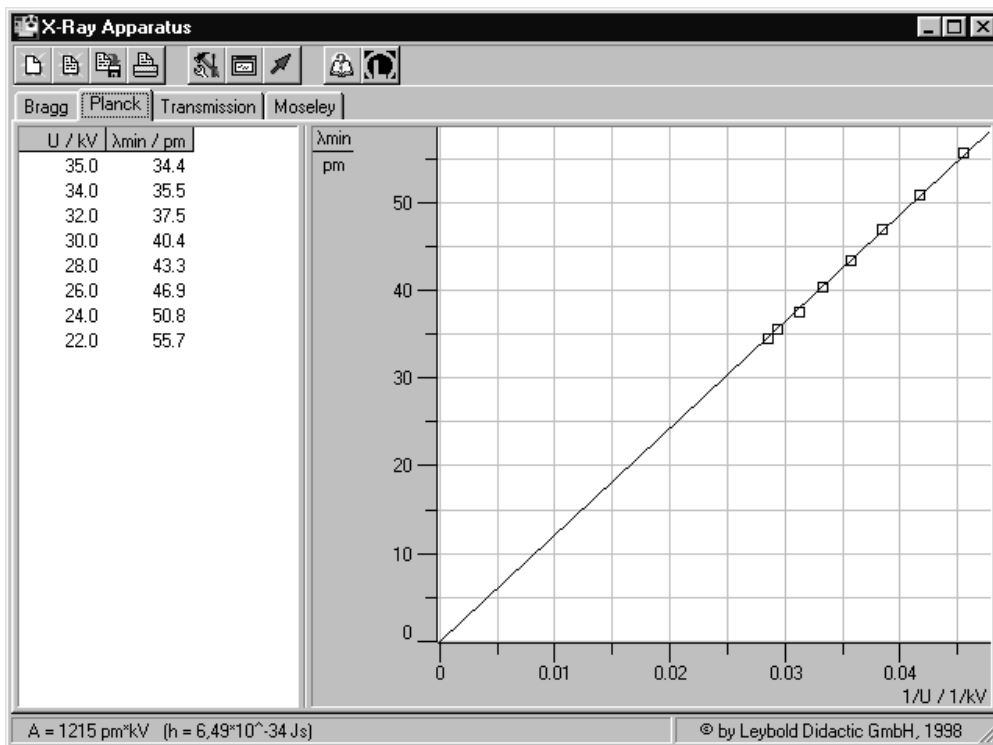

Fig. 5 Evaluation of the data $\lambda_{\min} = f(1/U)$ for confirming the Duane-Hunt relation and determining Planck's constant
- Position the pointer over the diagram, click the right mouse button, fit a straight line through the origin to the curve $\lambda_{\min} = f(1/U)$ and read the slope A from the bottom left corner of the evaluation window (see Fig. 5).